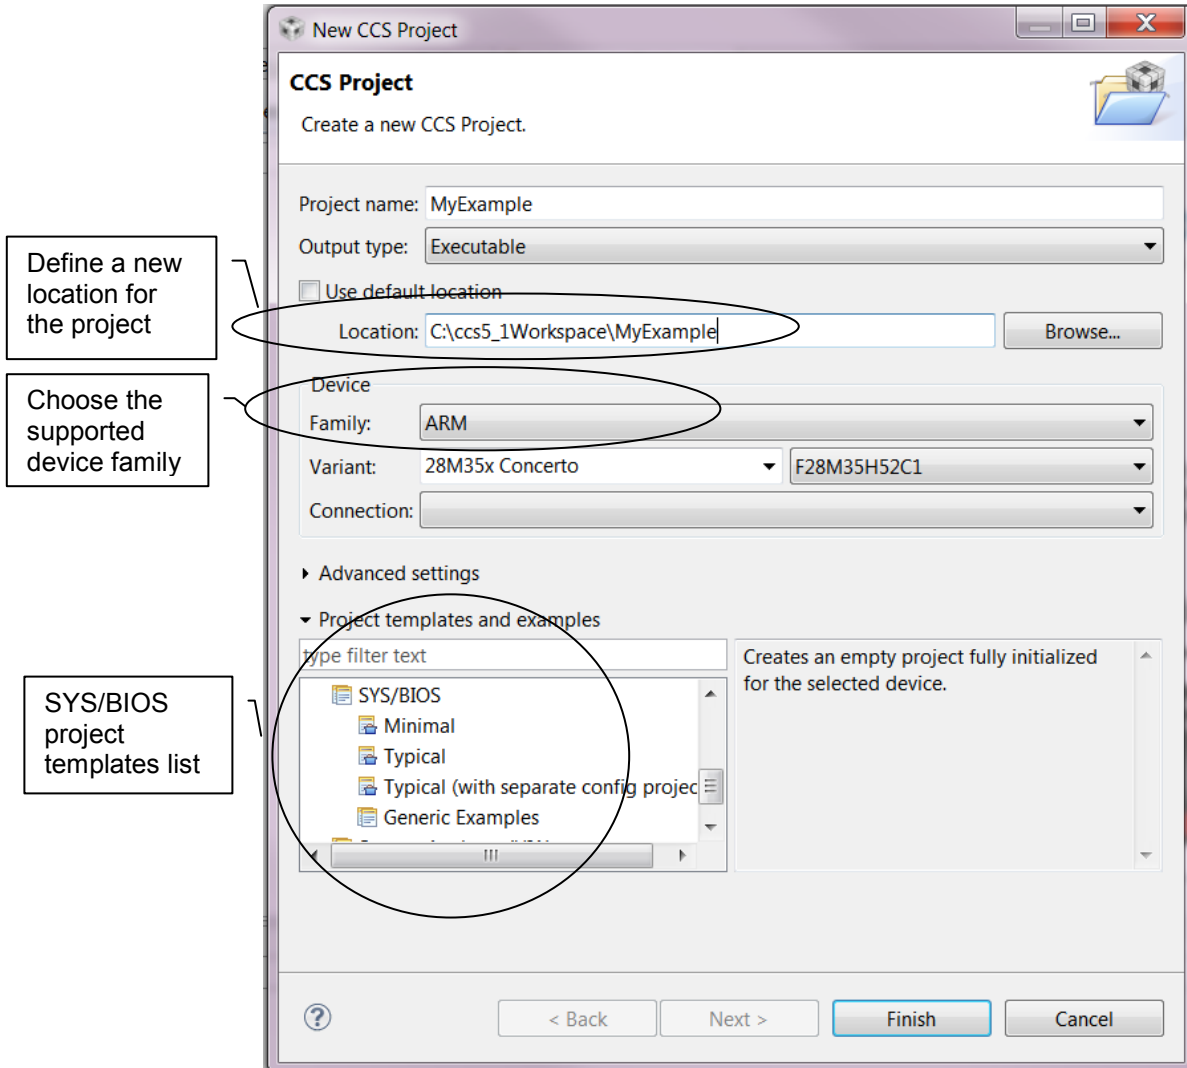

Figure 4. New CCS Project
2. Choose the device family that is supported by SYS/BIOS; Figure 4 shows the SYS/BIOS project templates list. You can choose a template from this list as the template of your project. We choose a Task Mutex example.